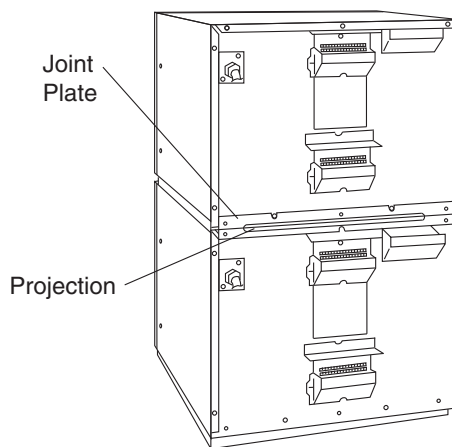

Fig. 2
- Attach and tighten five screws (a) and the screw (b). See Fig. 2.